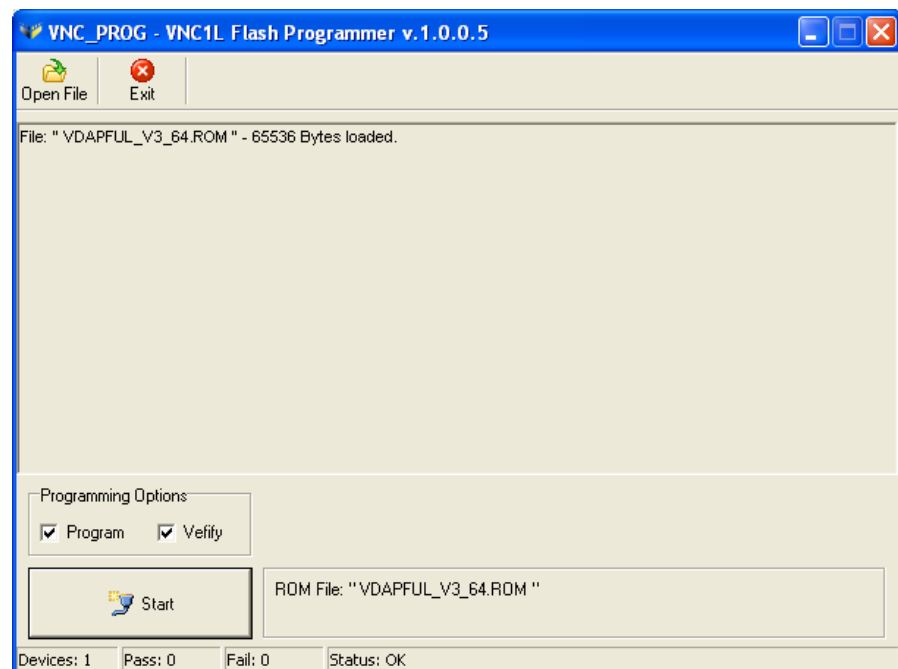

Figure 3.5 VPROG-1 Interface after download of <filename.rom>
2. Select the required firmware by using the "open_file" menu and browsing to the downloaded <filename.rom> file. When file has been loaded, the display changes as shown by Figure 3.5: